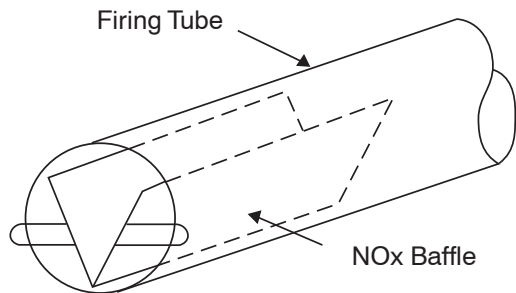

Fig. 1 - Low NO_x Baffle Location
Before converting a unit to propane gas, remove the burner assembly and inspect the heat exchanger tubes. If there are V-shaped NO_x baffles installed in the firing tubes, (see Fig. 1). THEY MUST BE REMOVED PRIOR TO CONVERTING THIS UNIT TO PROPANE GAS.
10. Inspect the inlet of the heat exchanger tubes for presence of V-shaped NOx baffles (see Fig. 1). If baffles are present,